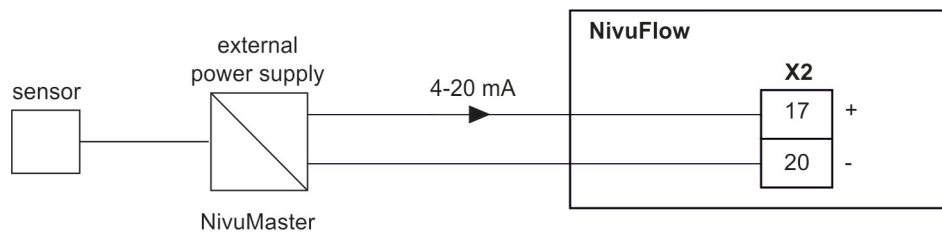

Fig. 16-6 Connection of an external level measurement
- ➡ If the mA signal of the level measurement is provided from an external transmitter (e. g. NivuMaster), the transmitter must be connected according to Fig. 16-6.